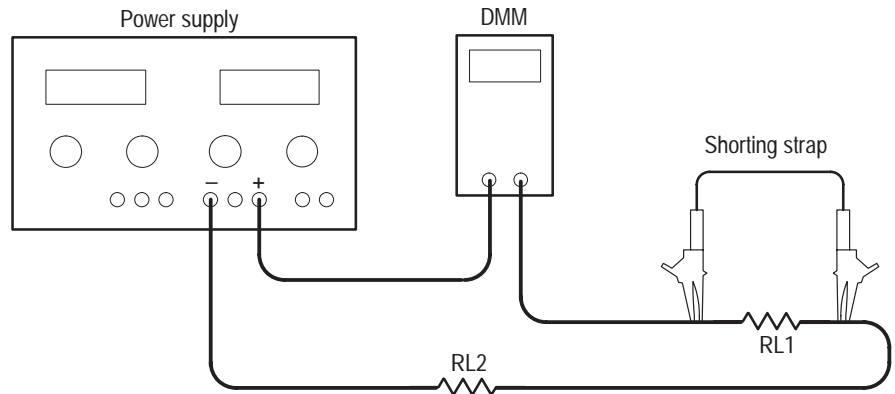

Figure 2: Constant current test setup
8. Connect the digital multimeter and load resistors to the + and – terminals of the power supply MASTER output as shown in Figure 2. See Table 7 for the appropriate load resistor values.
9. Verify that the power supply output current varies less than 0.2%  $\pm 3$  mA while shunting load resistor RL1 with the shorting strap. See Figure 2 above.
7. Connect the digital multimeter and load resistors to the + and – terminals of the power supply SLAVE output as shown in Figure 2. See Table 7 for the appropriate load resistor values.
8. Verify that the power supply output current varies less than 0.2%  $\pm$ 3 mA while shunting load resistor RL1 with the shorting strap. See Figure 2 above.
7. Connect the digital multimeter and load resistors to the + and – terminals of the power supply MASTER output as shown in Figure 2. See Table 7 for the appropriate load resistor values.
8. Verify that the power supply output current varies less than 0.2%  $\pm$ 5 mA while shunting load resistor RL1 with the shorting strap. See Figure 2 above.